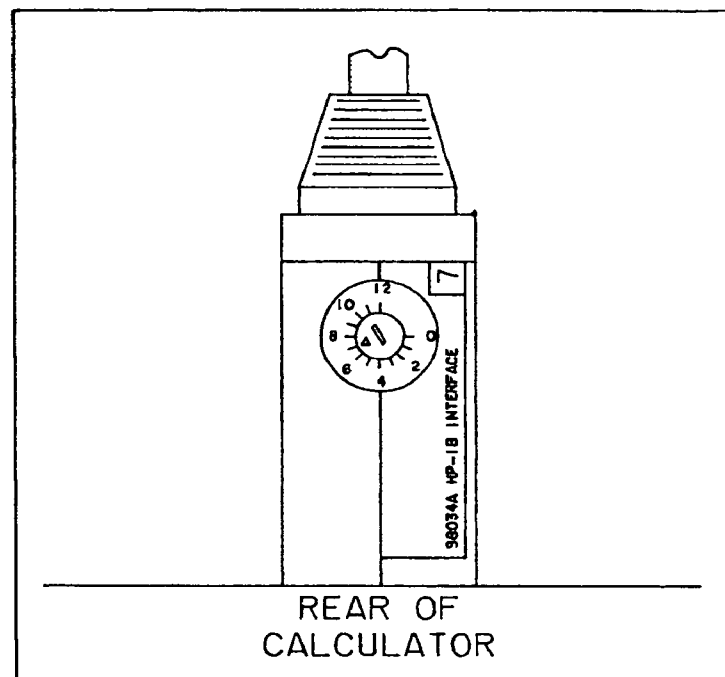

Figure 4-5. HP-IB Interface Cable Switch Setting.
- c. Check the rotary switch setting (Figure 4-5) on the HP-IB interface cable. The pointer should be on "7". If the pointer is at some other setting, use a small screwdriver to set it on "7".